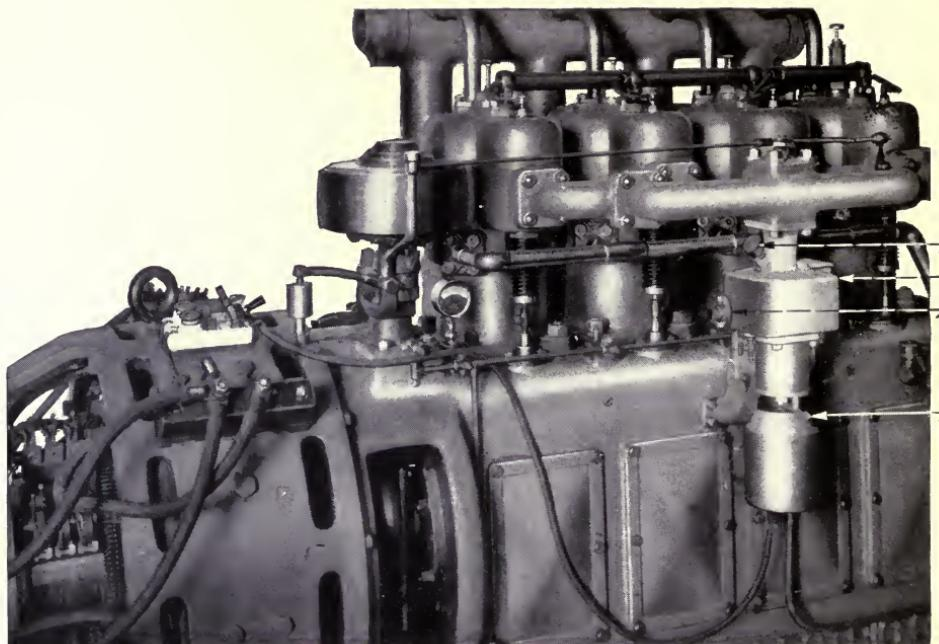

Fig. 1.—Carburetor, throttle valve and connections.
**16b. Carburetor.**—At the side of the carburetor is an indicator glass through which the flow of gasoline may be observed at all times. Beneath the carburetor and attached thereto is an air-valve body with two inlets. The air valve is provided with a handle (*part 75, fig. 1*) by means of which the source of air supplied may be varied. When the handle is at "H" hot air only (from crank case) is supplied; when at "C" cold or room air is supplied. Between "H" and "C" both hot and room air are available—the proportions may be varied by changing the position of the handle. When at "S" the air supplied is entirely shut off. Between "C" and "S" partially throttled
**16c. Air heater.**—At the instant of starting in cold or damp weather the crank case air will be cold. In order to prevent formation of ice in the throttle opening, due to the moisture in the air, an electric heater is provided. This is a removable device attached to the air valve. A cutout switch on the generator puts the heater in or out of circuit. (See fig. 1.)